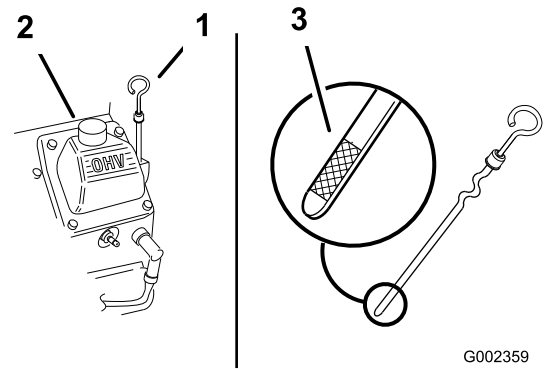

Figure 21
3. Clean around the oil dipstick (Figure 21) so that dirt cannot fall into the filler hole and damage the engine.
4. Unscrew the oil dipstick and wipe the end clean (Figure 21).
5. Slide the oil dipstick fully into the filler tube, but do not thread onto tube (Figure 21).
6. Slowly pour approximately 80% of the specified oil into the filler tube (Figure 21).